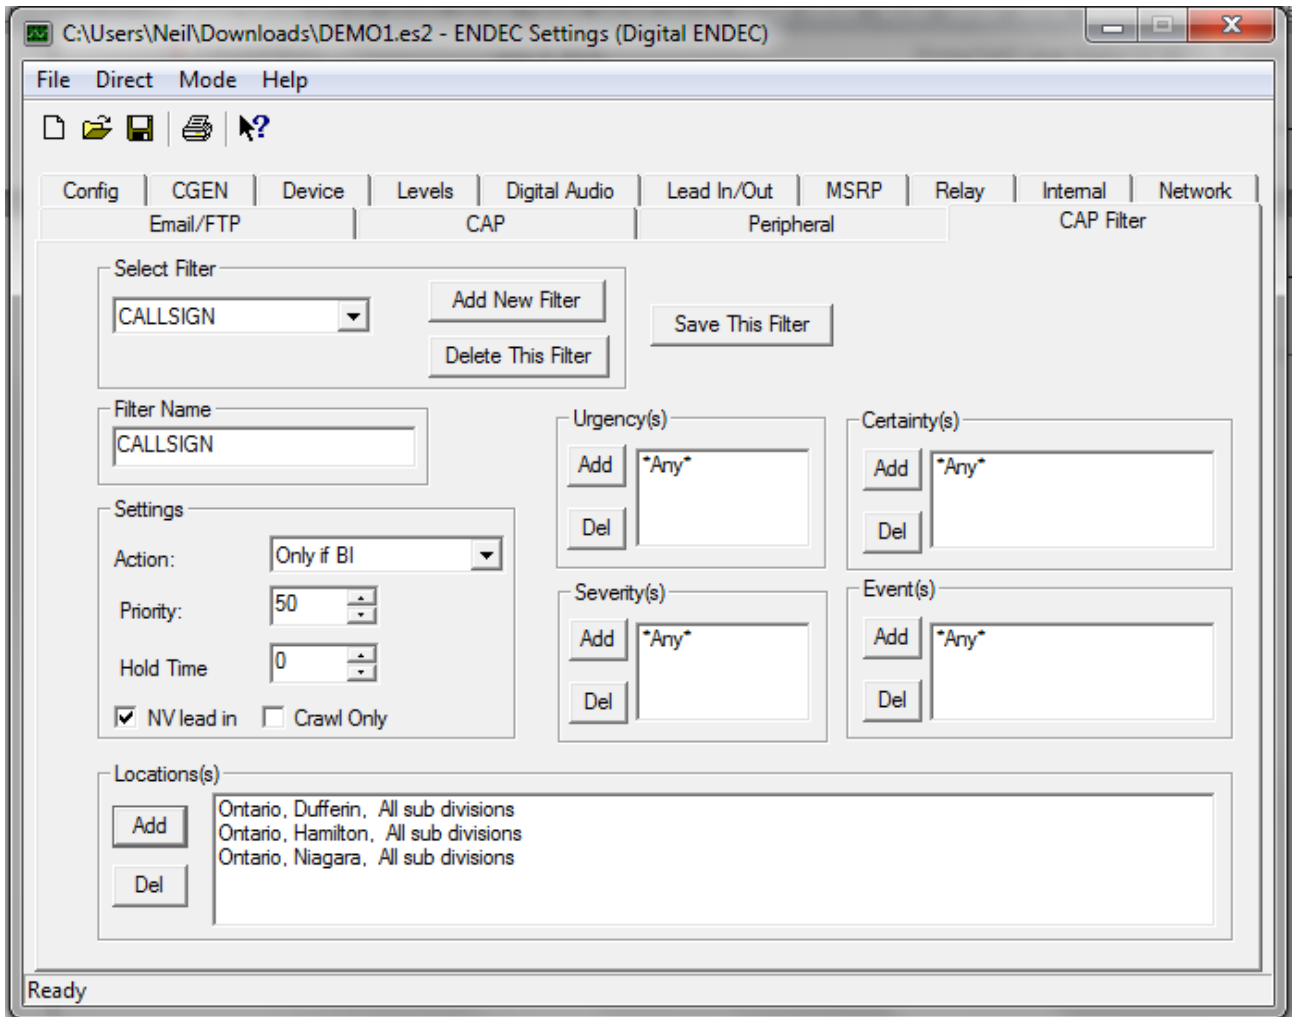

Figure 12.
**3.14.2** Sample filter file for BI only alerts is shown in Figure 12. This sample is a typical filter file for the Endec configured to broadcast the Broadcast Immediate (BI) alerts that are required to go to air. **You need only select the Action, Priority and SGC codes/locations.** The Urgency, Severity and Certainty can be set for the highest levels, but it is not required when using the Only if BI Action setting.